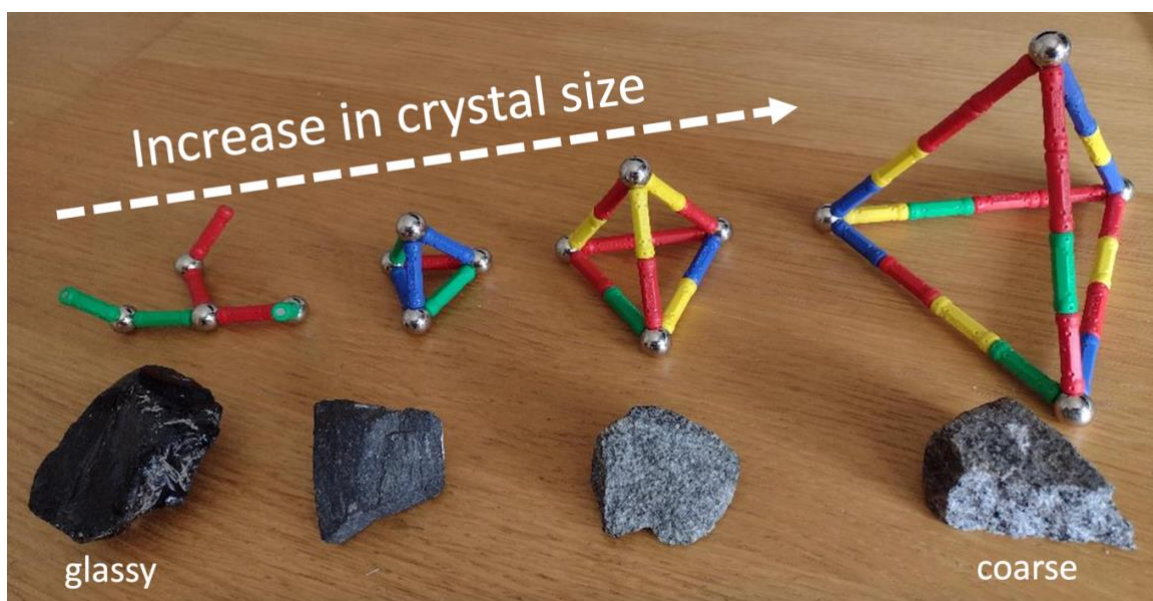

Fig 2. Tetrahedra arranged showing rates of cooling linked to rock texture (rapid/glassy to slow/coarse from left to right) (Pete Loader)
- Students complete the tetrahedra and they are displayed according to the order in which they were completed ('crystallised') (Fig 2).